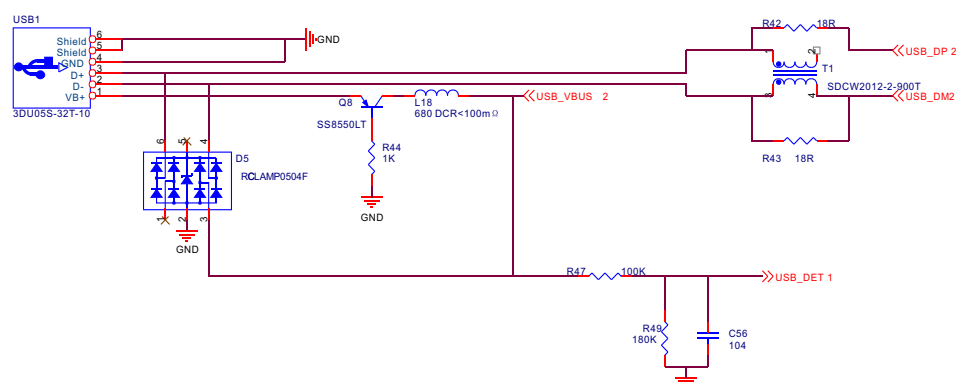

Figure 3.2.4.1 USBjack circuit schematic diagram
1. USB jack circuit schematic diagram is shown in the figure 3.2.4.1: